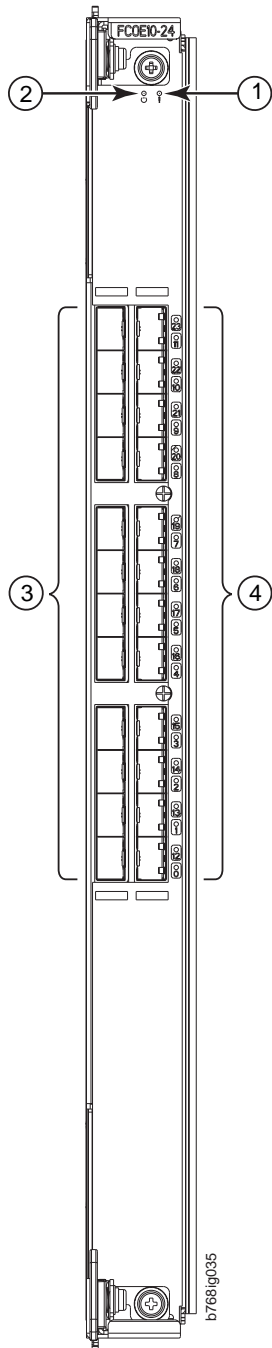

Figure 20. FCOE10-24 blade
- Figure 20 on page 48 illustrates the FCOE10-24 Fibre Channel over Ethernet blade